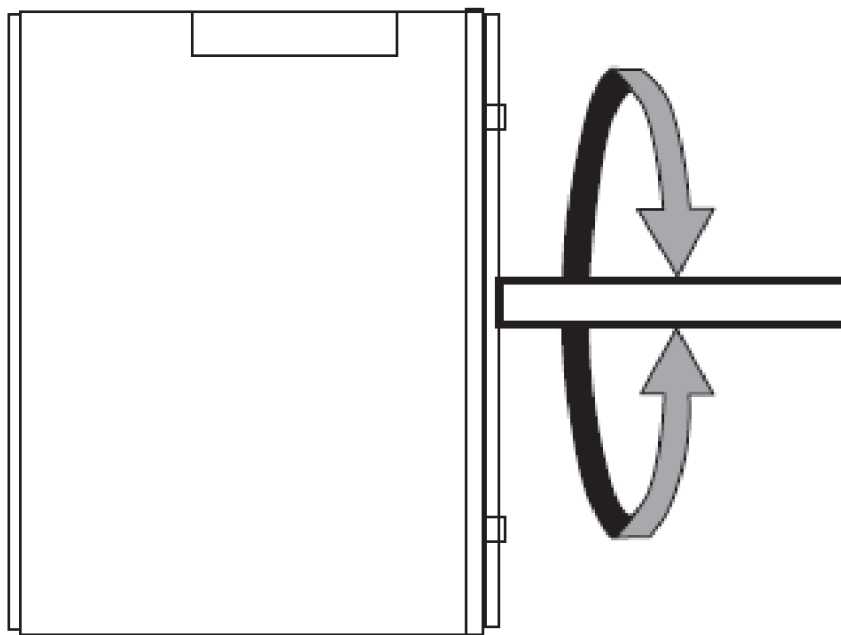

Figure 12
2. Make sure the motor shaft spins freely without effort manually in both directions [Figure 12].